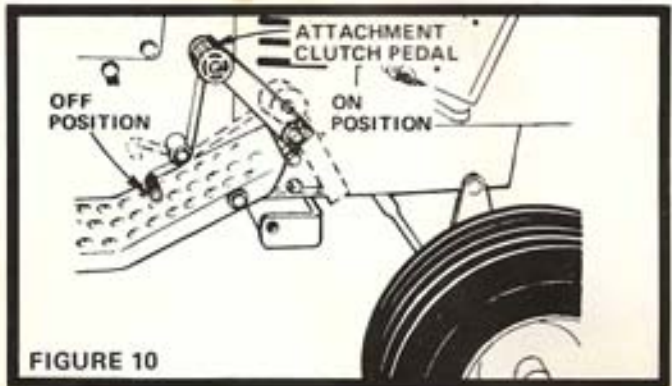
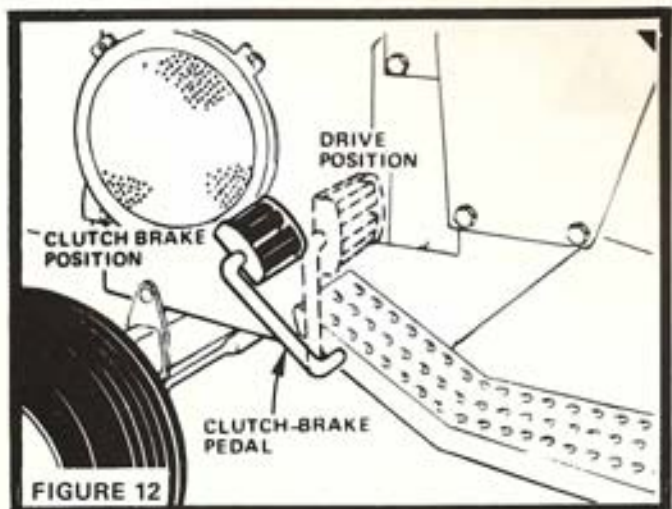

FIGURE 10
FIGURE 12
THIS TRACTOR IS EQUIPPED WITH SAFETY SWITCHES TO PREVENT STARTING OF THE TRACTOR ENGINE WHILE THE ATTACHMENT CLUTCH PEDAL IS IN THE "ON" POSITION (FIG. 10) AND THE CLUTCH-BRAKE PEDAL IS IN DRIVE POSITION (FIG. 12).
2. Place Attachment Clutch Pedal in "OFF" position (Fig. 10).
5. Push Clutch-Brake Pedal into brake position (Fig. 12).